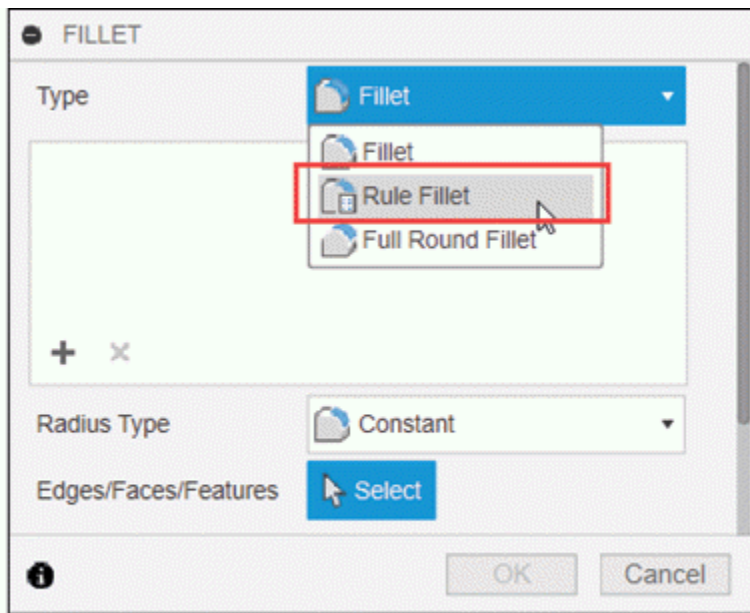
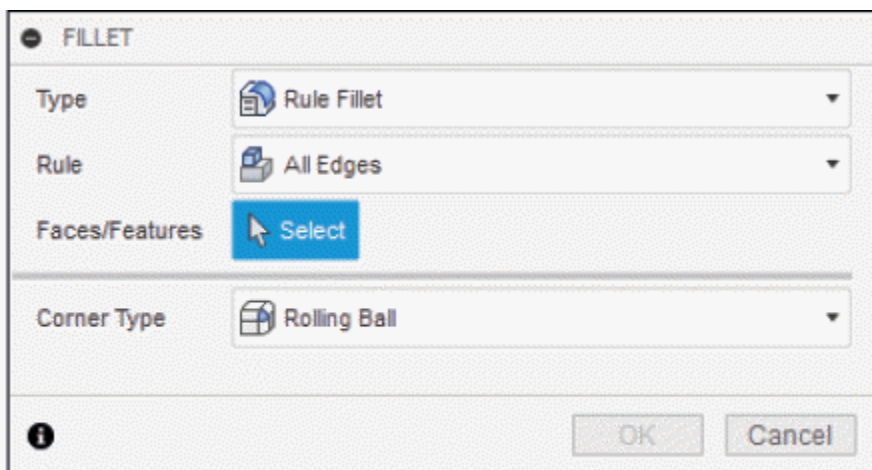

Figure-13. Rule Fillet tool in FILLET dialog box
Figure-14. FILLET dialog box with rule fillet options
- Select **Rule Fillet** option from **Type** drop down in **FILLET** dialog box; refer to Figure-13. The **FILLET** dialog box with rule fillet options will be displayed; refer to Figure-14.